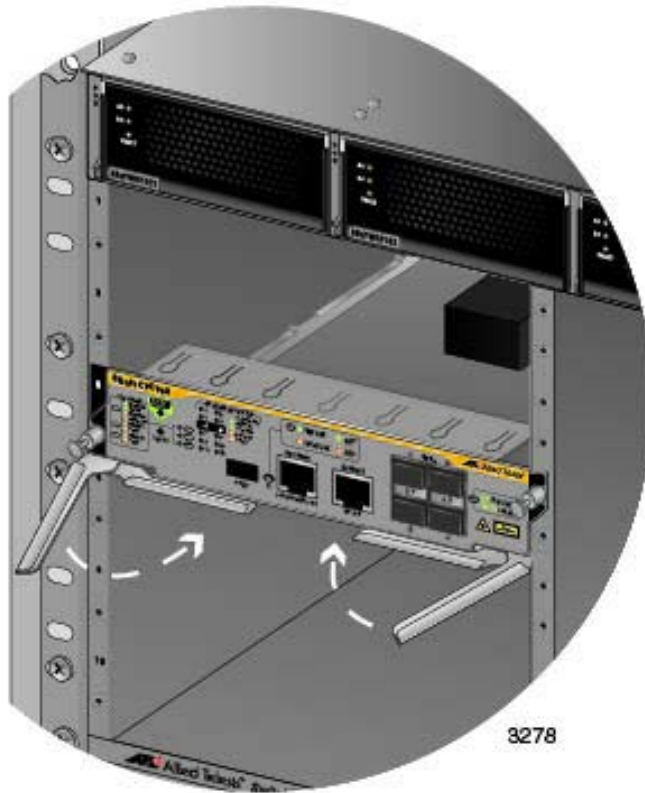

Figure 66. Closing the Locking Levers on the AT-SBx81CFC960 Controller Fabric Card
8. When you feel the card make contact with the connector on the backplane of the chassis, carefully close the two locking levers on the front panel of the controller card to secure it in the chassis, as shown in Figure 66 on page 132.